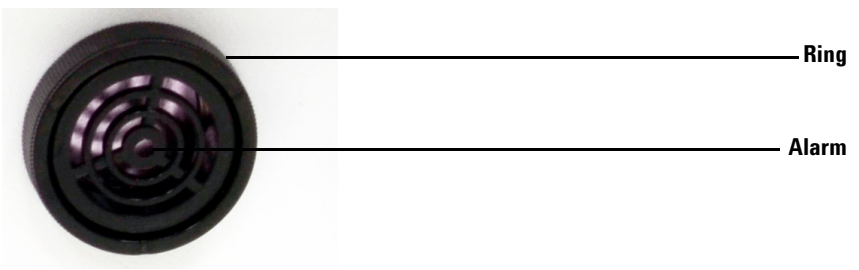

Figure 11 Outside view of the alarm
- 3 From the outside of the Quiet Cover MS, unscrew the ring securing the alarm and remove the alarm (see Figure 11).